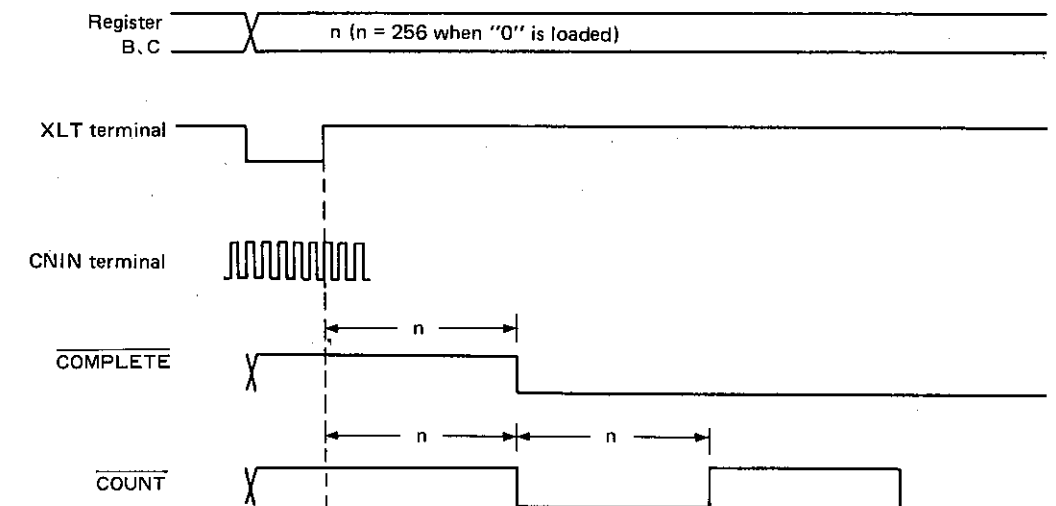

Fig. 6-3 Tracking counter timing chart
The tracking counter timing chart is shown in Fig. 6-3.
1. COMPLETE: Address is "B"; Shown in Fig. 6-3.
2. COUNT: Address is "C"; Shown in Fig. 6-3.